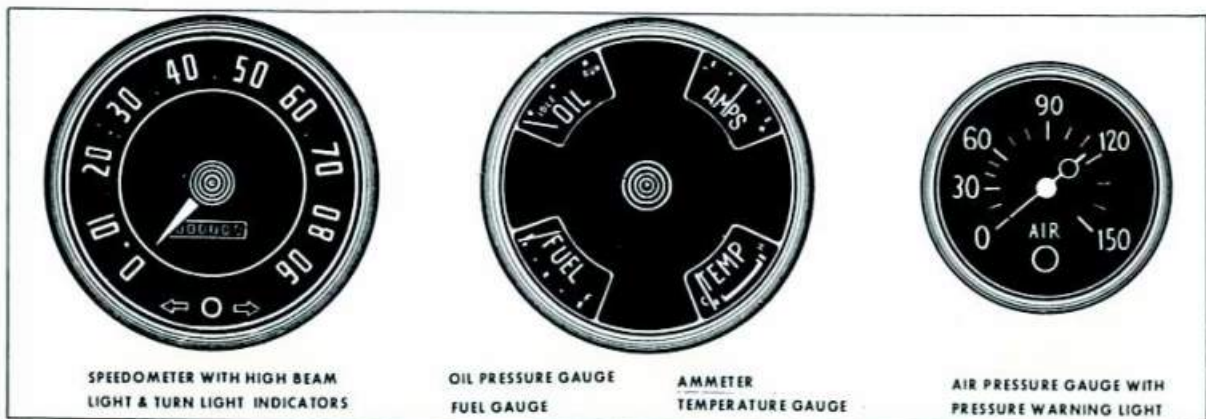

FIG 6
72. The controls, instruments and miscellaneous fittings inside the cab are illustrated in Fig 6 to 10 inclusive.